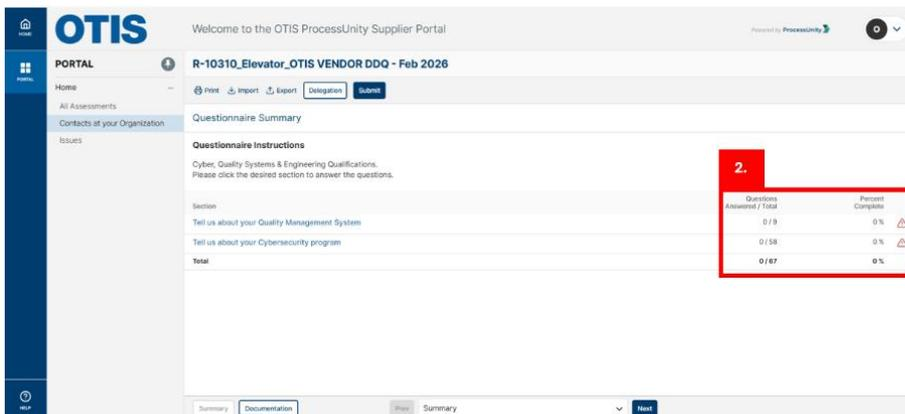

Figure 4
2. Upon clicking the assessment name, page with the relevant questionnaires will be visible. (Refer figure 4)